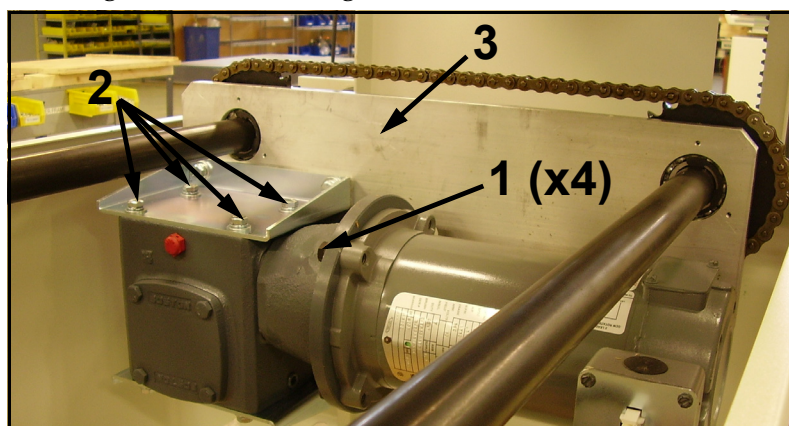

Figure 6-30. Bolts to be removed in order to remove motor
- 8 Disconnect the power cable from the motor and table chassis. Disconnect the ground wire. Remove the four bolts (1 in Figure 6-30) securing the motor to the gearbox. Remove the motor from table.
- 9 Remove the four bolts (2 in Figure 6-30) securing the gearbox to the motor drive plate (3). Remove gearbox from table.